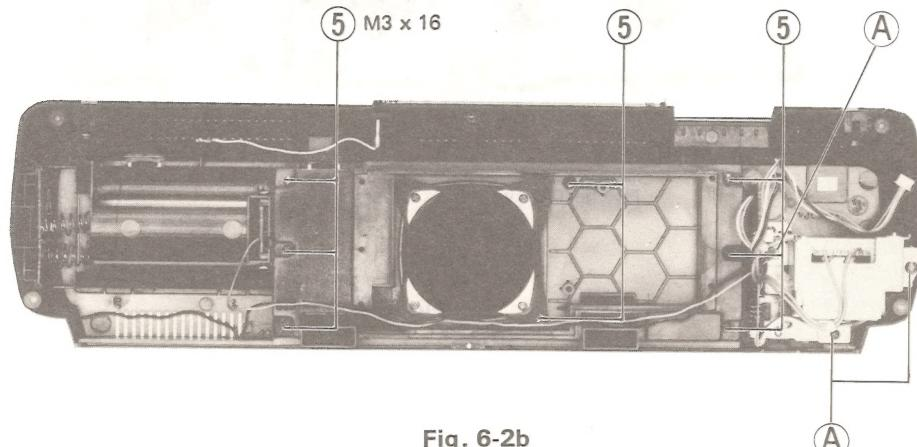

Fig. 6-2b
■ Power Transformer and Power Supply Board (Fig. 6-2b)